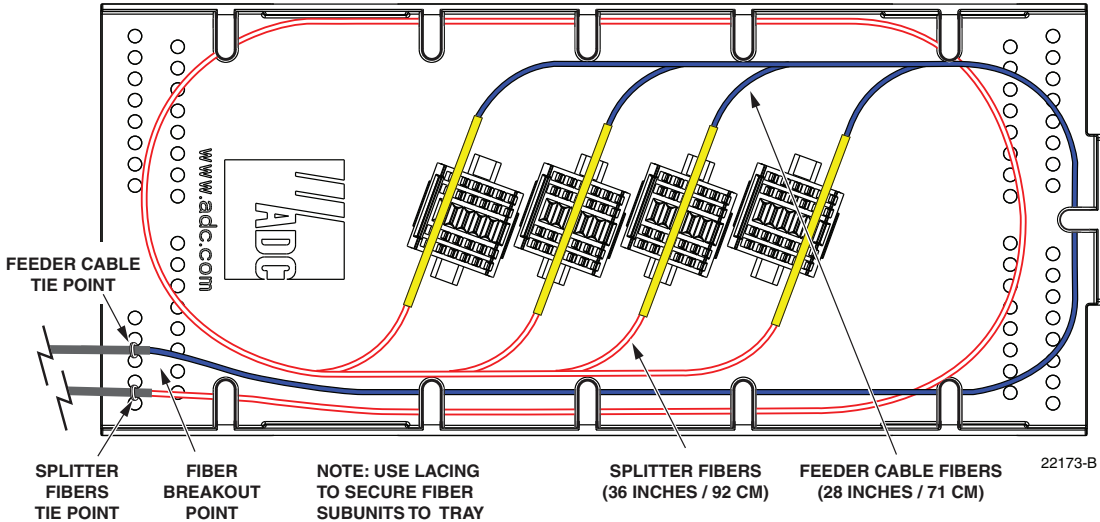

Figure 44. Stranded Fiber Splice Tray - Feeder Cable Splicing
10. Splice the feeder cable fibers to the appropriate splitter fibers as specified by local policies and procedures. Adjust and route the fibers within the splice tray as shown in Figure 44. Refer to Table 4 (shown previously) for the splitter fiber designations.